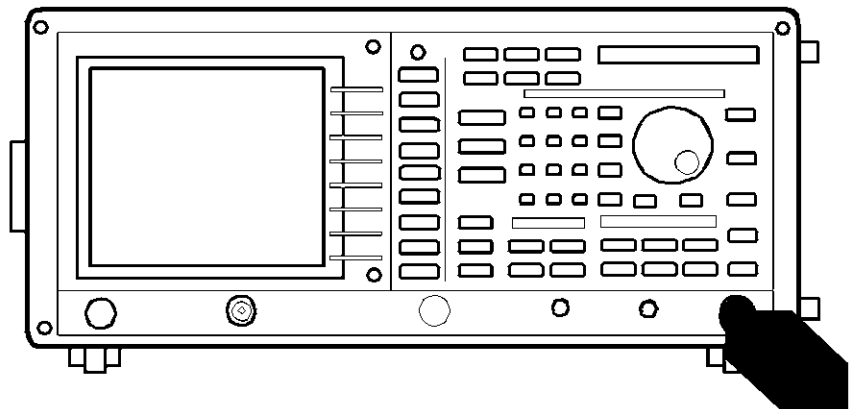

Figure 5-21 Setup of Residual Response Test
6. Connect the terminator on the INPUT as shown Figure 5-21.